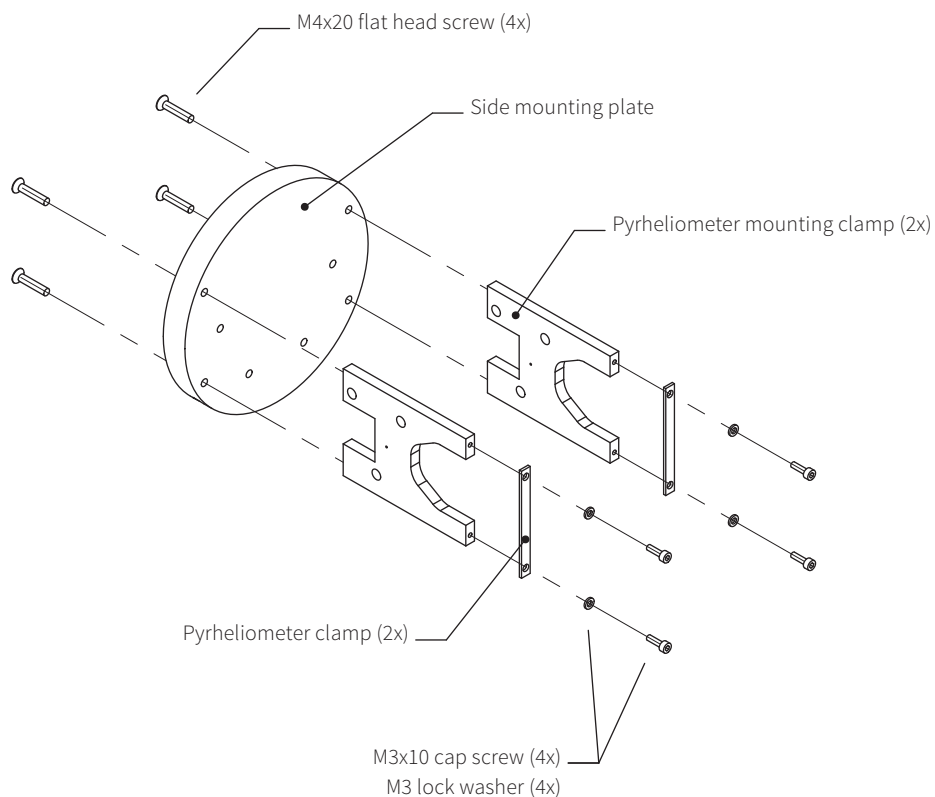

figure 3.1. Assembling a side mounting plate with pyrhelimeter mounting kit
A second side mounting plate is used in conjunction with the shading ball assembly or for mounting a second pyrhelimeter. The supplied plates can be customized to meet your specific configuration requirements. For alignment of a second mounting plate a clear sun is required to adjust the position on the axis. During normal operation (SOLYS turned on) the position of the side mounting plate can be fixated with the alignment target on the mounting clamps (or pyrhelimeter). The hole pattern of the side mounting plate is given in figures 3.1 and 3.3. If a second side mounting plate is used to mount the shading drive arm (without instrument mounting clamps) this drive arm should be aligned with the first one before fixating the screws on the axis. The SOLYS can handle payloads up to 80 kg including all accessories.
- Pre-assemble the side mounting plate as shown in figure 3.1 and attach the side plate assembly to the Zenith shaft.